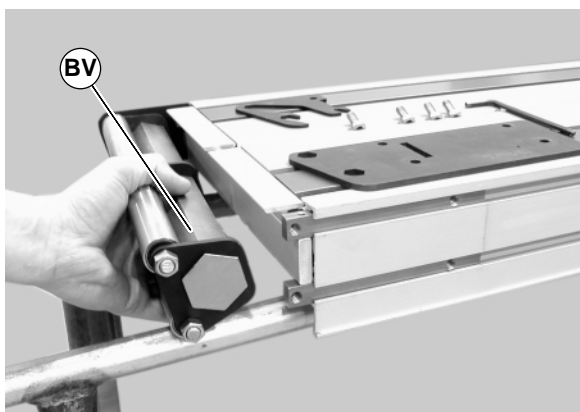

Figure 55
4. Slide the transfer tail pulley assembly (BV of Figure 55) out of the headplate on the opposite side.